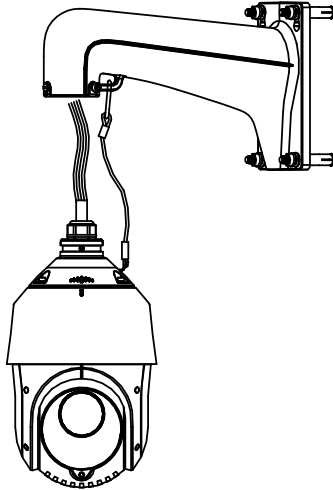

Figure 2-11 Safety Rope
- 1) Hook the two ends of the safety rope to the speed dome and the bracket respectively as shown in Figure 2-11.